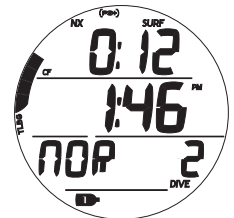

Fig. 29 - NORM SURF MAIN (> 10 min after dive 2)
Upon surfacing during dives, the Dive Main will remain on display for the first 10 minutes with Surface Interval time (SI) in place of Depth after which the post dive Surface Main will be displayed (Fig. 29).